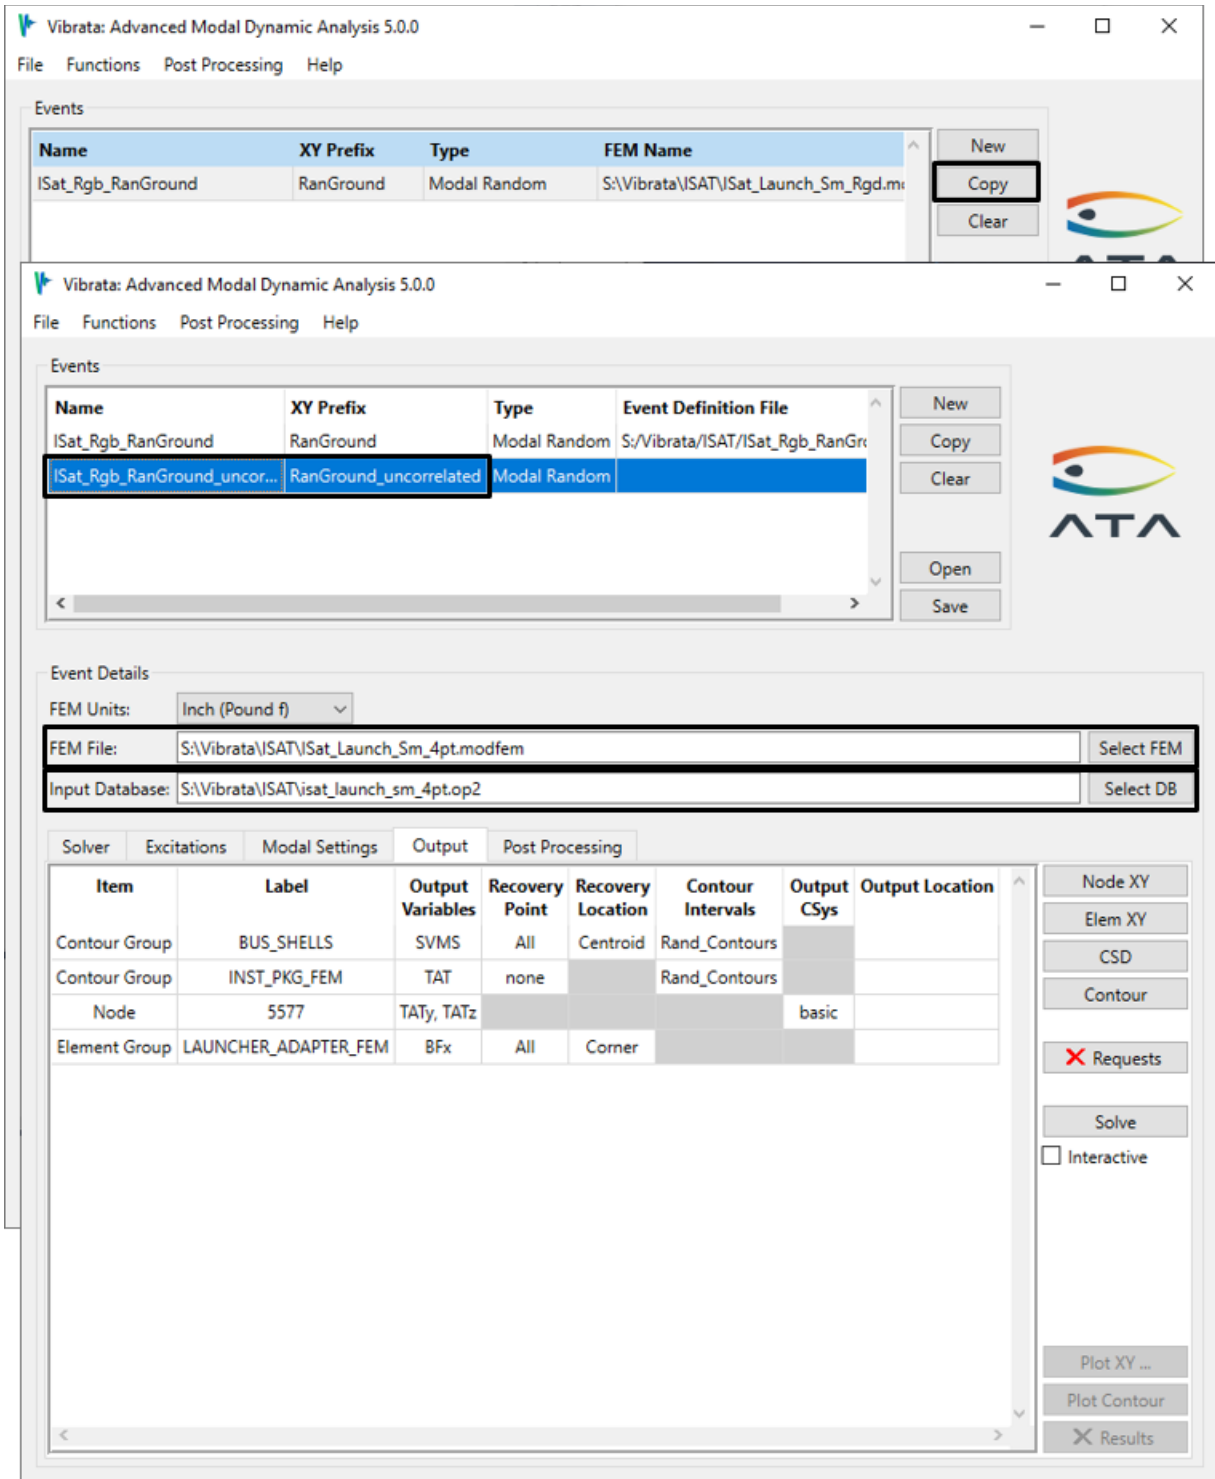

Figure 4-53. Use the **Copy** button to start a new event from the event just completed.
2. In the Event Manager, copy the event from section 4.3.2 using the **Copy** button and then assign a new name to the new event (Figure 4-53). Set the XY-Plot Prefix to "RanGround\_uncorrelated" and change the event name to "Isat\_Rgd\_RanGround\_uncorrelated". Use the **Select FEM** button to select the modfem file for the four-point model. Use the **Select OP2** button to select the OP2 with the same name. You will see a dialog warning of possible changes to excitations and output requests for the new FEM; confirm that you want to make the change. The two events will be identical in their modal settings and output requests, although the new event will have no results yet. The excitation function will also be the same as before, but we now have four input locations instead of only one, so we will have to redefine the excitations.